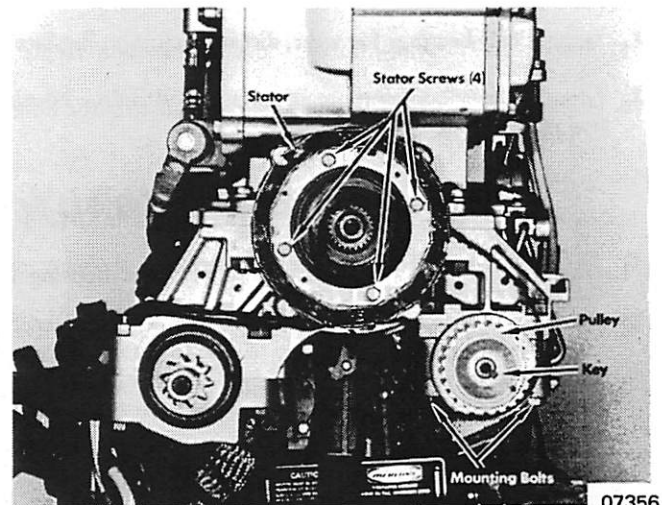

Figure 3. Removing Stator
5. Remove 4 screws and remove stator. (Figure 3)
6. Remove 2 cap screw mounting bolts. (Figure 3)